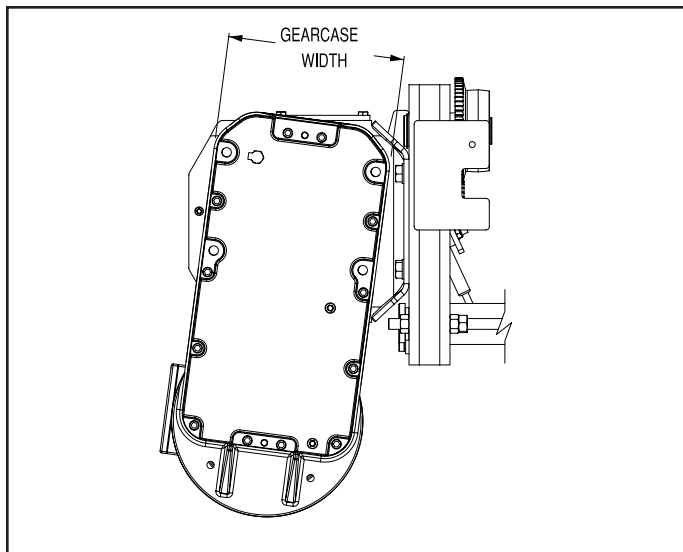

Figure 4-2. Gearcase Width Illustration
- e) Refill through filler hole to proper level (bottom of oil level plug hole) using **GCOH** (Paragraph 4-7). The amount of oil required depends on the overall size of the gearcase; three sizes are used for "World Series" hoists. To determine size and amount of oil to add, measure the width of hoist gearcase (see Figure 4-2). The "B" Frame measures 9-3/4" wide and requires approximately 5 quarts of oil. The "C" Frame measures 12-1/2" and requires approximately 11 quarts of oil. The "D" Frame measures 17" and requires approximately 12 quarts of oil.